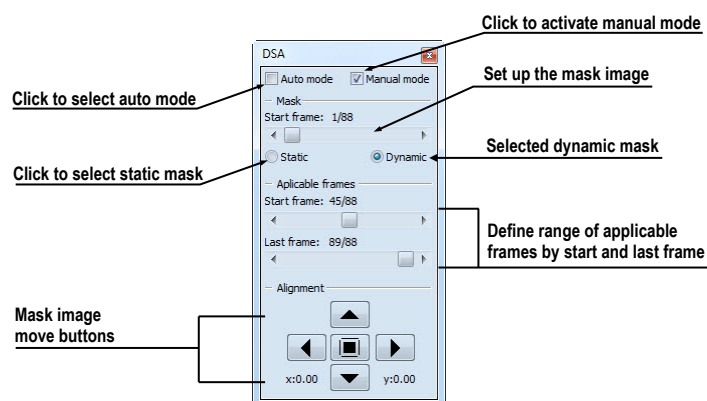

Figure 151 – DSA tool
2. Select the **Manual mode** in the **DSA** tool (see Figure 151).